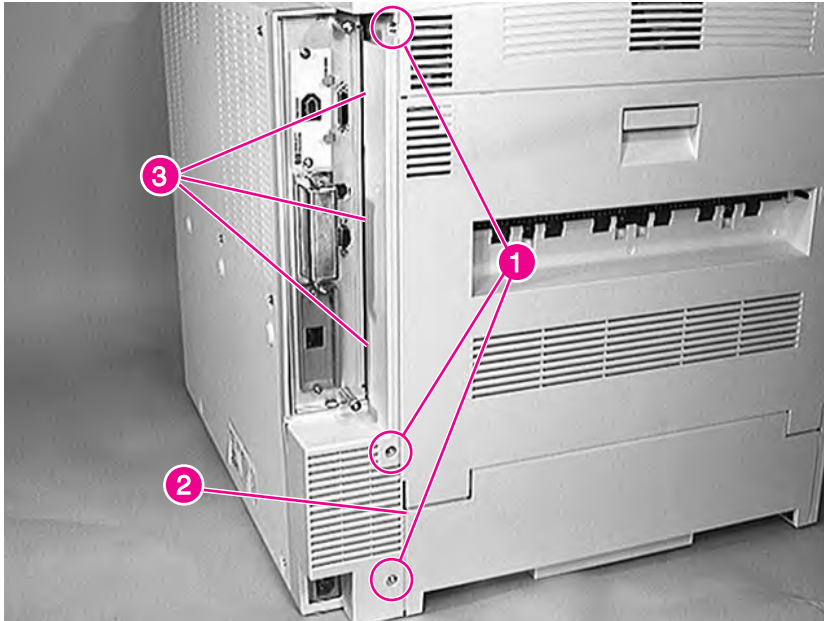

Figure 6-5 AC Access Cover
- 2 Remove 3 screws (figure 6-5, callout 1).
- 1 Insert the panel edge (figure 6-5, callout 2) inside the back cover (if installed).
- 2 Be sure to insert the three alignment tabs (figure 6-5, callout 3) into their slots before replacing the screws.
- AC Access Cover (see figure 6-5 on page 166)